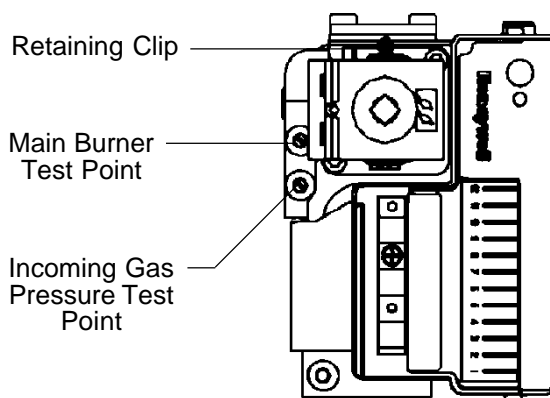

Fig. 20
6.6.4 Locate the main burner pressure test point (Fig. 20) and slacken the screw half a turn in an anti clockwise direction. Attach a suitable pressure gauge. Turn on electricity supply and fully open a domestic hot water tap to operate boiler in dhw mode. Adjust hot water control knob to it's maximum setting.